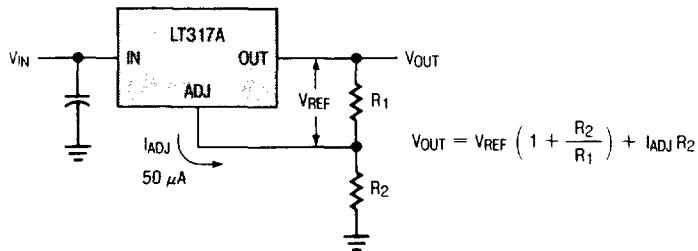

Figure 1
**General:** The LT117A develops a 1.25V reference voltage between the output and the adjustable terminal (see Figure 1). By placing a resistor, R1, between these two terminals, a constant current is caused to flow through R1 and down through R2 to set the overall output voltage. Normally this current is the specified minimum load current of 5mA or 10mA.